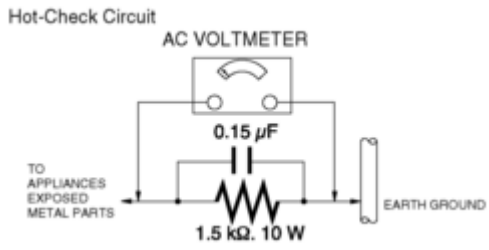

Figure. 1
## 1.3 Leakage Current Hot Check (See Figure. 1)
2. Connect a 1.5 k $\Omega$ , 10 W resistor, in parallel with a 0.15  $\mu$ F capacitor, between each exposed metallic part on the set and a good earth ground, as shown in Figure. 1.